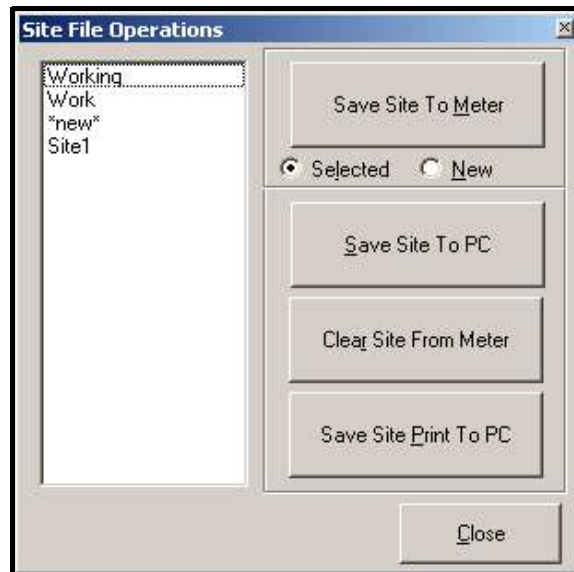

Figure C-14: The Site File Operations Window
To access site files, click on the *Site Files* button in the *Properties* window. The *Site File Operations* window (shown in Figure C-14 below) opens.
1. Highlight the desired site in the left pane. (See Figure C-14 on page C-9.)
1. Highlight the site in the left pane. (See Figure C-14 on page C-9.)